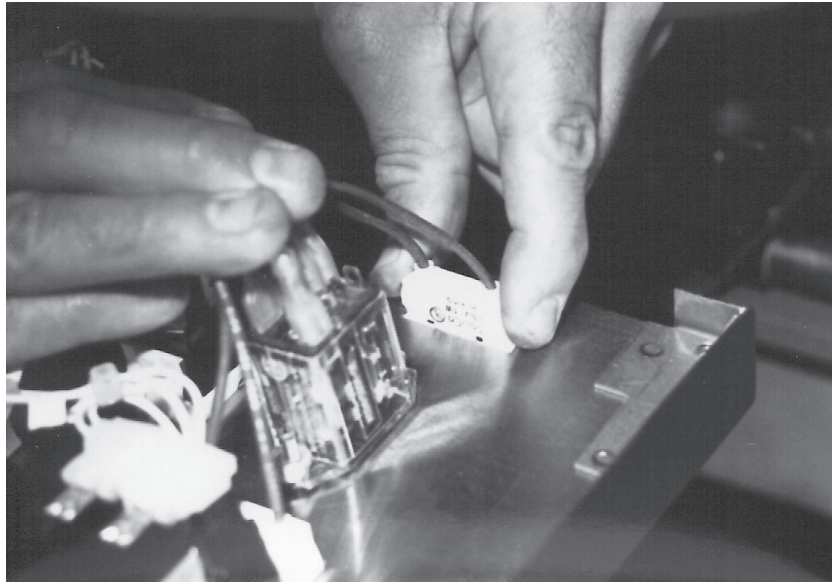

Fig. 16
3. Squeeze the tabs on both sides of the indicator light being replaced and pull the light out through the front of the panel. (Fig. 16)